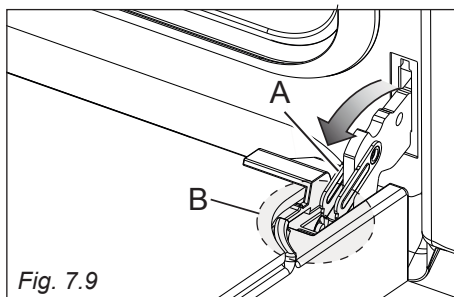

Fig. 7.9
- Open the lever "A" completely on the left and right hinges (fig. 7.9).
- Gently close the door until left and right hinge levers "A" are hooked to part "B" of the door (fig. 7.9).